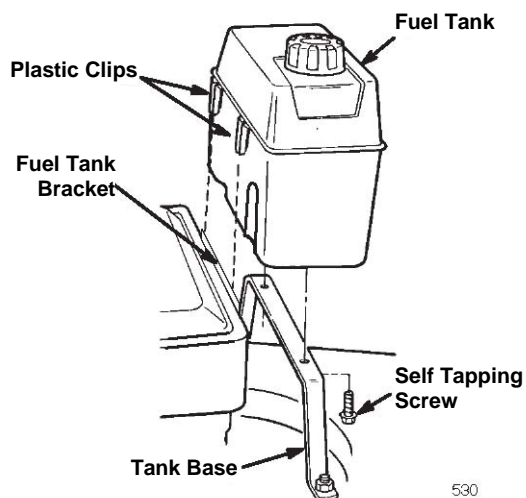

Figure 3
1. Start the two self-tapping screws into the bottom of the fuel tank and then remove the screws (Fig. 3).
2. Hook the plastic clips on the front of the fuel tank onto the fuel tank bracket (Fig. 3).
3. Secure the fuel tank to the tank base with the two self-tapping screws (Fig. 3). **Do not overtighten the screws.**